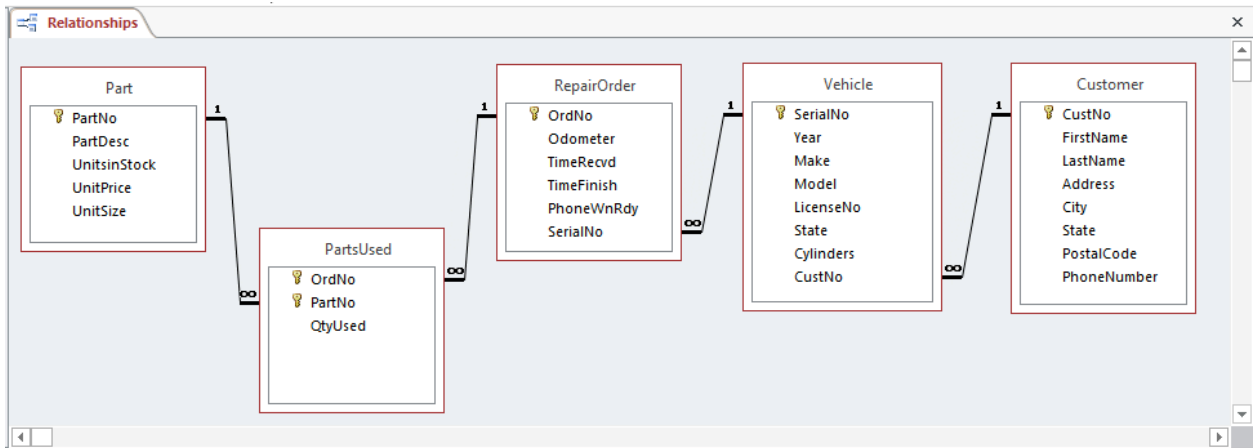

Figure 55: Completed Relationships Window
- Inspect the Final Result: After enforcing referential integrity, your window should appear as in Figure 55.
3. **Inspect the Final Result:** After enforcing referential integrity, your window should appear as in Figure 55.